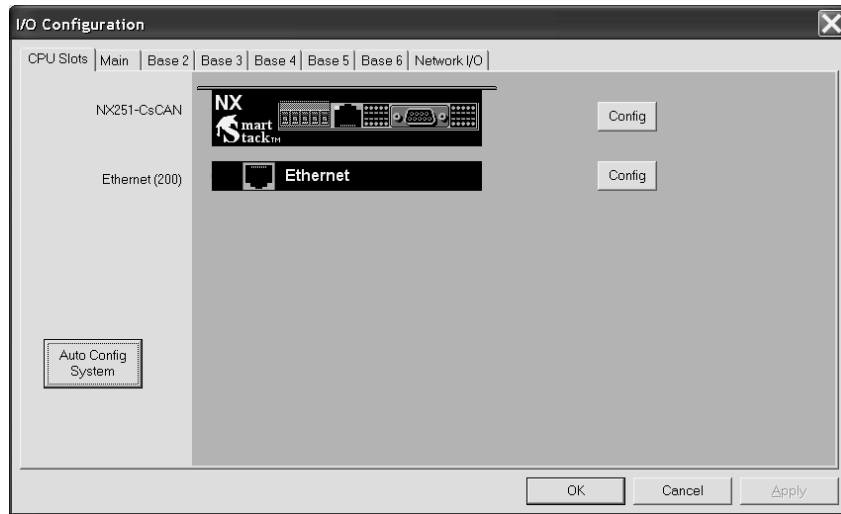

Figure 25 – Main Base Screen appears with Ethernet
- Figure 25 appears. In this configuration example, I/O modules are going to be selected and configured for Base 2.